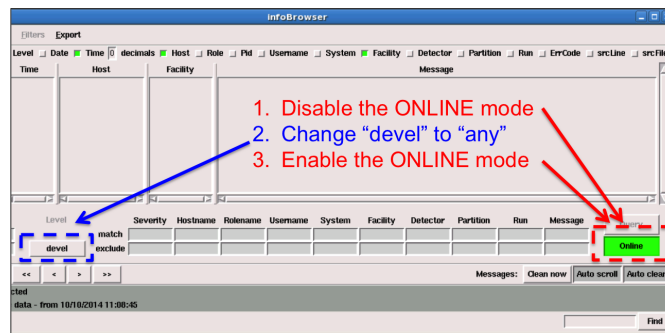
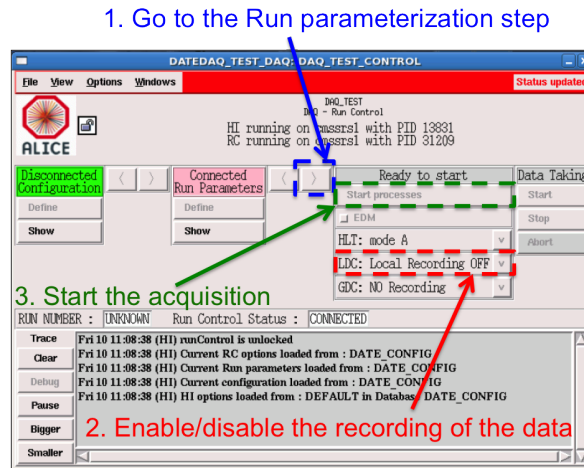

Figure 5.19: QC5 DATE info browser window.
Figure 5.27: QC5 DATE test control window.
2. Then, start the DATE software by executing the command *DATE* in a new terminal. After few seconds, two windows will appear. In the infoBrowser window, disable the online mode by clicking on the green ONLINE button, then change the "*devel*" status to "*any*" and enable the online mode, as indicated in Fig. 5.19.
6. In the DATE test control window, select the available arrow to the right to enable the "*Ready to start*" panel (see Fig. 5.27). Switch the local recording of the LDC to ON. If the recording is set to OFF, the data will not be written on the disk and therefore lost forever. Then click on "*Start processes*". After few seconds, the DATE info browser window (Fig. 5.19) will display the message "*Equipment ready*".